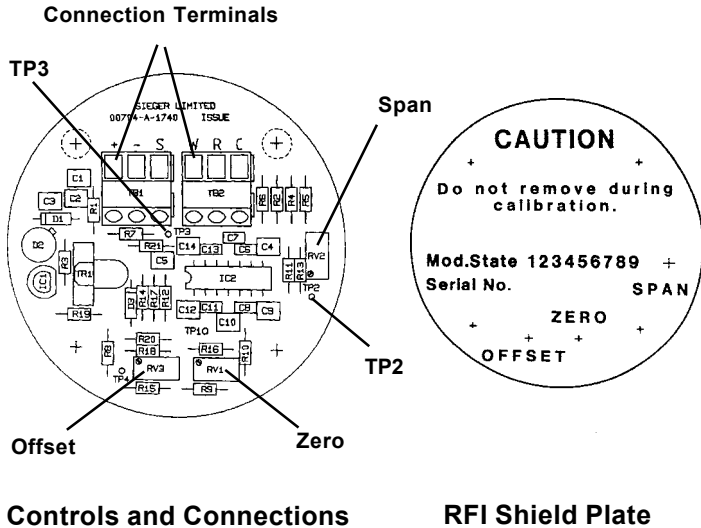

Figure 7 Circuit Board Assembly Connections
Two 3-way terminals blocks on the pcb in the terminal enclosure enable the sensor to be connected to equipment in the safe area. For wiring details see Figure 7.
- (1) Allow a minimum warm-up period of 1 hour after applying power before carrying out this procedure.
- (2) Insert a Digital Multimeter (DMM), set to read current, in series with the 4 - 20mA line.
- (3) Ensure the sensor is in a gas-free atmosphere then, if necessary, adjust the ZERO control for a reading of 4mA on the DMM.
- (4) Gas the sensor as instructed in Section 6 'Gassing the Sensor'. After 5 minutes, adjust the SPAN control for a reading of 20mA on the DMM for 50ppm H₂S.
- (5) If procedures (3) and (4) cannot be achieved, adjust the Offset control as follows:
- a. Connect the DMM, (set to read mV), between TP2 and TP3 on the pcb (see Figure 7).
- e. Repeat steps (3) and (4), remove the gas adaptor and allow sufficient time for the test gas to escape.
- (6) Turn off the test gas and check that the DMM indicates 4mA. If not, adjust the ZERO control to give a DMM reading of 4mA.